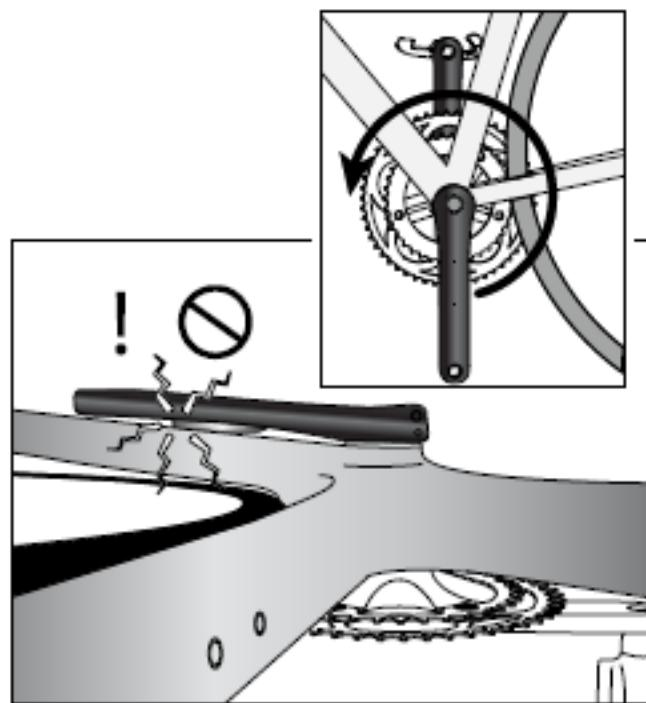

FIG 7
3. **Carefully and slowly rotate the crank 1 full revolution to ensure there is no contact between the power meter sensor housing and any part of the frame or other components** as illustrated in **FIG 7.**